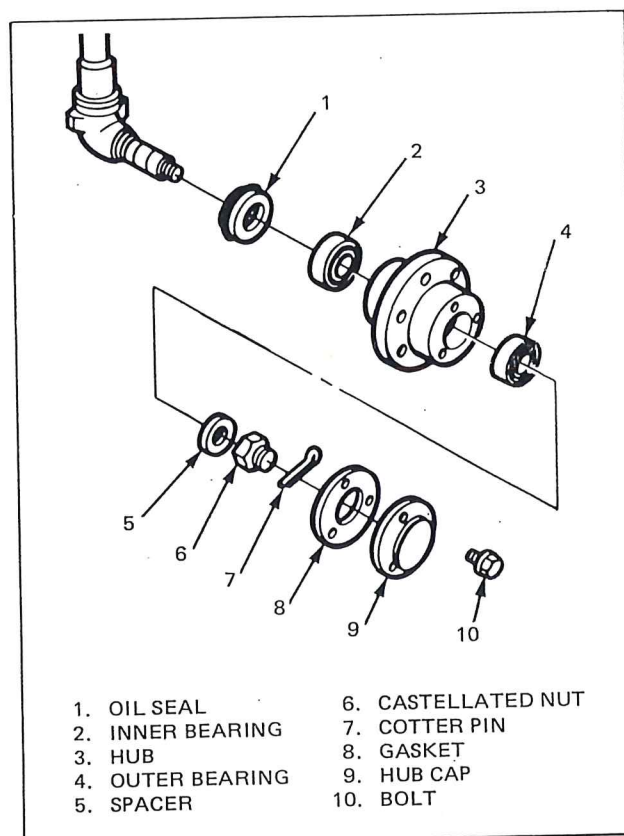

Figure 67 — Servicing Front Wheel Bearing—Two-Wheel Drive (SP5000 and SP6000)
2. Jack up one of the front wheels and remove the hubcap, the cotter pin and the nut, Figure 67. Remove the spacer, outer bearing, and then the complete wheel assembly.